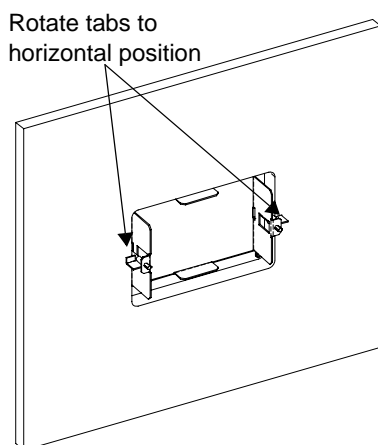

Figure 3 Securing the Mounting Plate
4. Secure the mounting plate by tightening the two screws to rotate the tabs to the horizontal position (see Figure 3) and pull the tabs tight against the inner surface of the wall. Be careful not to overtighten the screws and damage the wall.